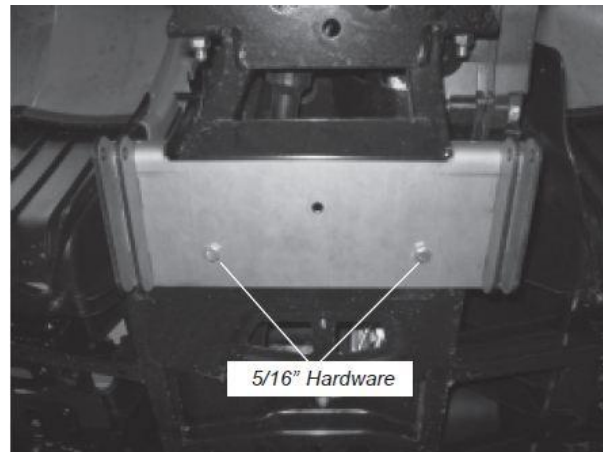

Figure 4
- Attach the plow mounting bracket to the factory skid plate using two  $\frac{5}{16}$ "-18x1" hex head bolts (D1), two  $\frac{5}{16}$ " flat washers (D2) and two  $\frac{5}{16}$ -18 lock nuts (D3) (Figure 4).